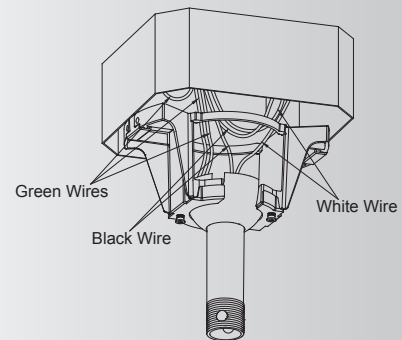

Fig. 13
**Step 3.** After connections have been made, turn leads upward and carefully push leads into the outlet box, with the white and green leads on one side of the outlet box and position the black leads on the other side of the outlet box. (Fig. 13)